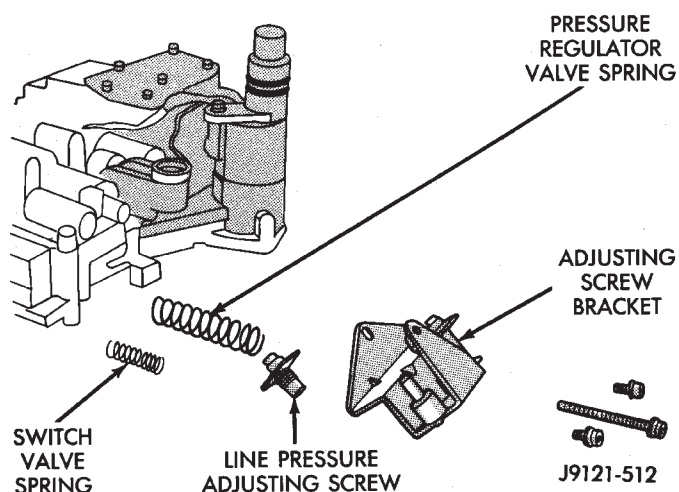

Fig. 98 Adjusting Screw Bracket And Spring Removal—46RH
- (11) Remove adjusting screw bracket, line pressure adjusting screw, pressure regulator spring and switch valve spring (Fig. 98). **Do not remove throttle**